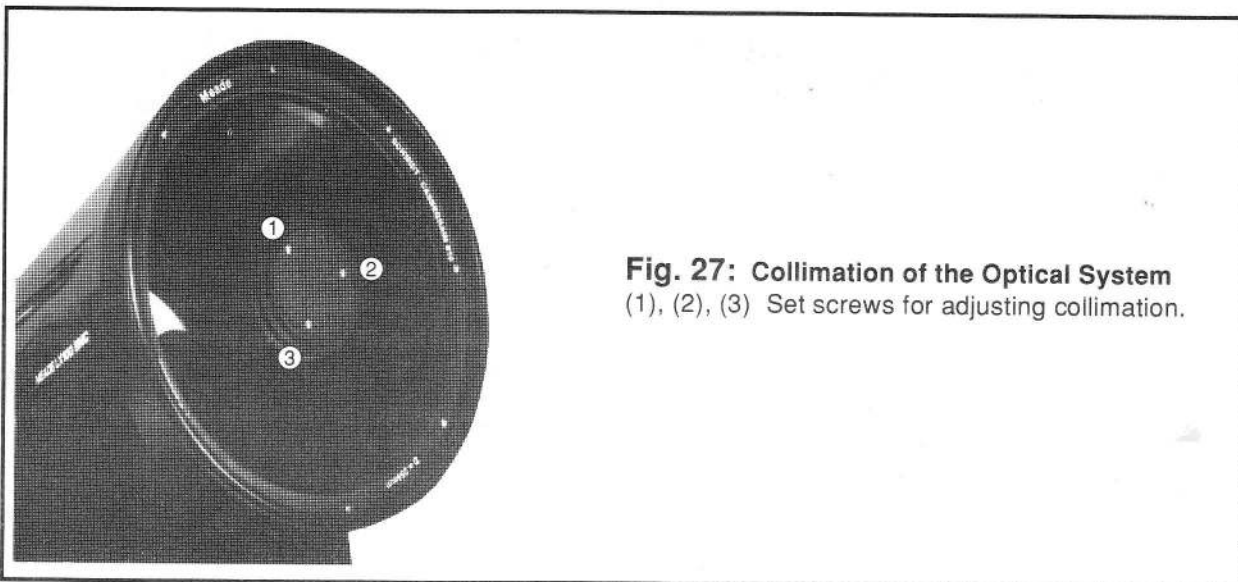

Fig. 27: Collimation of the Optical System
1. Note that the only optical alignment adjustment of the 8" and 10" Schmidt-Cassegrain models that is ever necessary or possible is the tilt-angle adjustment of the secondary mirror. Adjustment of this tilt-angle is achieved by turning the 3 set screws shown in Fig. 27, located at the edge of the outer surface of the secondary mirror housing.